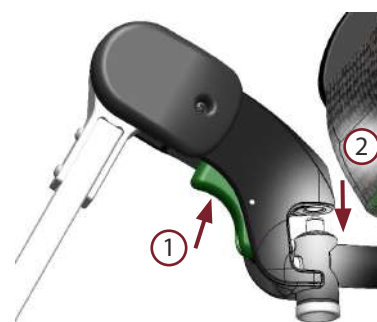

Figure 23. Mounting of leg rest
- Grip the knee joint and press the locking lever (1 in Figure 23).
- Align the knee joint with the peg and slide it down (2).
- Grip the leg rest from above and press the lever in (1 in Figure 23).